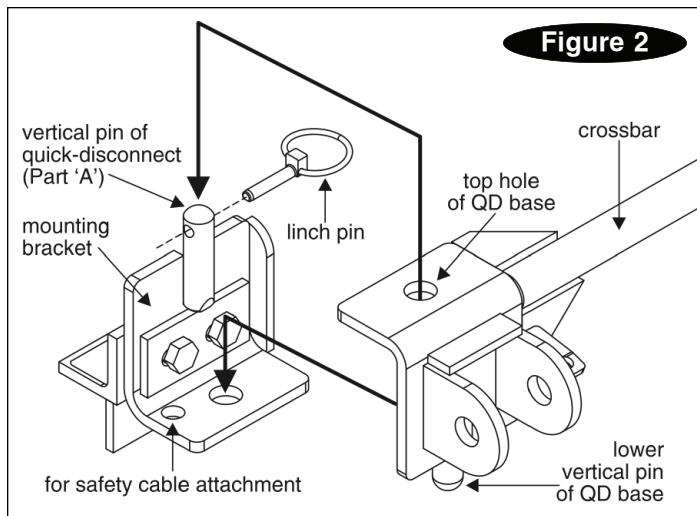

Figure 2
2. See Figure 2 – test-fit the QD crossbar – lower the QD crossbar over the quick-disconnects. The vertical pins *continued next page*